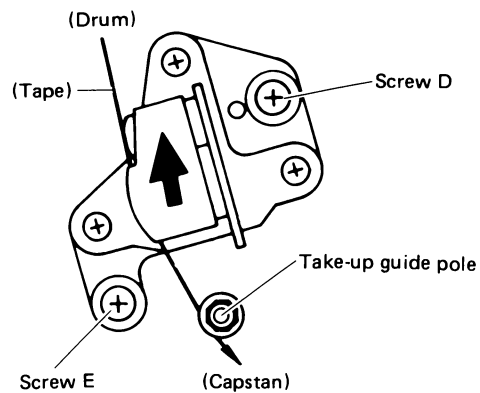

Fig. 2-32 CTL head phase adjustment
- Control head phase adjustment (See Figure 2-32.)
- 4) Observe the FM output level and slowly turn the tool to slide the A/C head assembly in the direction of the arrow as shown in Figure 2-32.